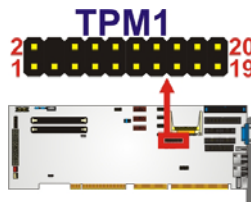

Figure 3-18: TPM Module Connector Locations
- CN Location:** See **Figure 3-18**